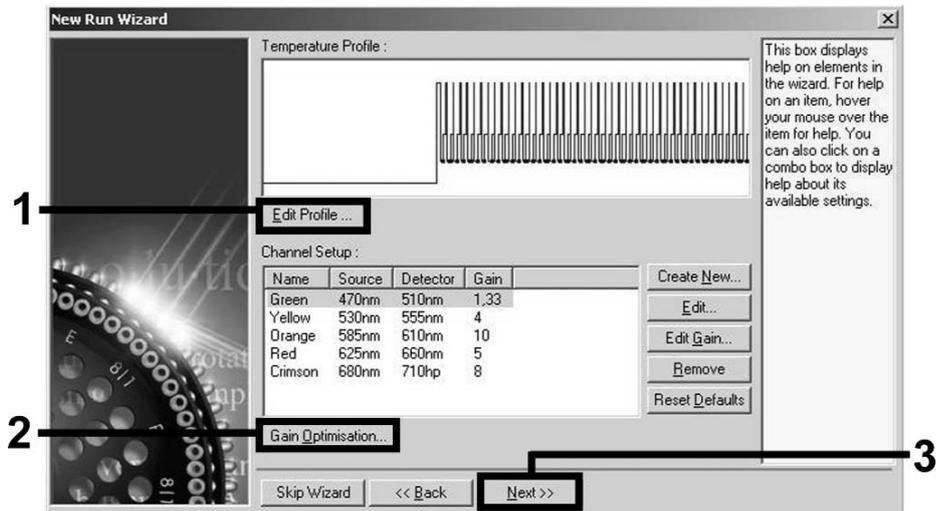
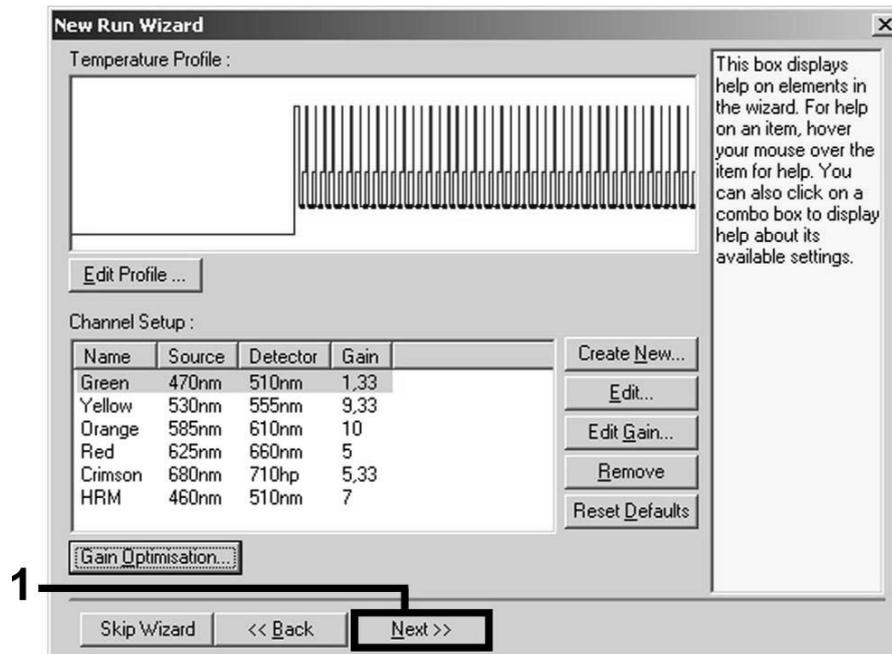

Figure 3. Editing the profile.
Figure 8. The “New Run Wizard” dialog box.
Starting the run	Figures 8, 9
- Click the “Edit Profile” button in the next “New Run Wizard” dialog box (Figure 3), and program the temperature profile as shown in Figures 3–6).
9. The detection range of the fluorescence channels has to be determined according to the fluorescence intensities in the PCR tubes. Click "Gain Optimisation" in the "New Run Wizard" dialog box (see Figure 3) to open the "Auto-Gain Optimisation Setup" dialog box. Check the box "Perform Optimisation before 1st Acquisition" (Figure 7). In the "New Run Wizard" dialog box, click "Next" (Figure 8).